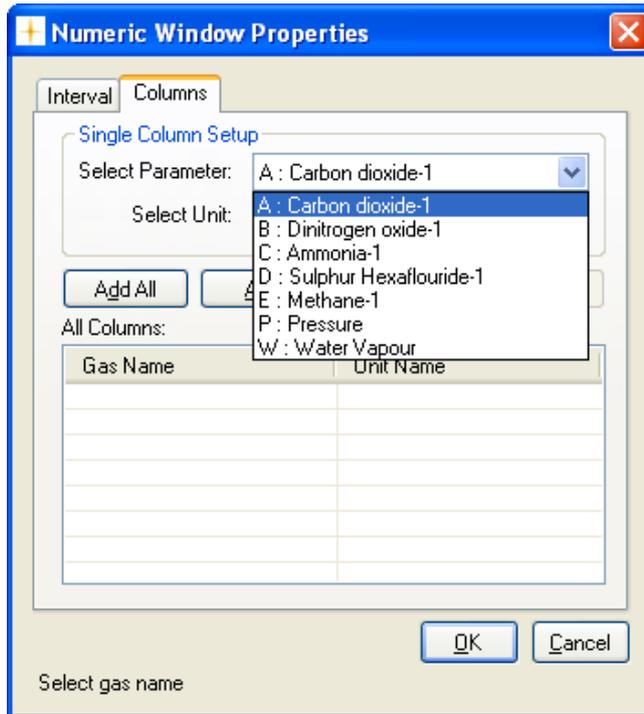

Figure 4.69 Select which gases should be displayed
**Select parameter:** by clicking in this field, the names of all the gases and atmospheric pressure measured during this monitoring task are displayed. The gases and pressure are selected individually, see Figure 4.69.